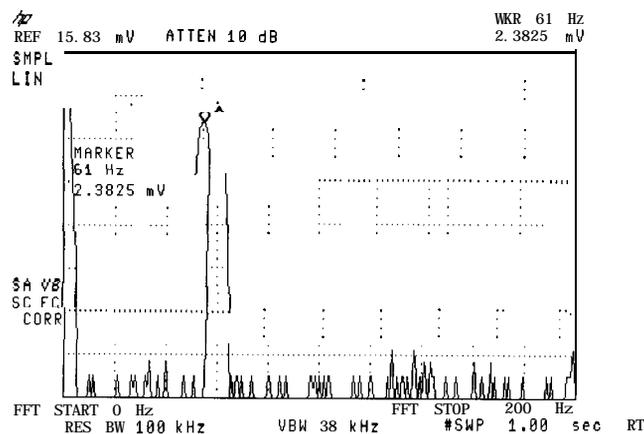

Figure 4-1. FFT Annotation
11. Press **[MEAS/USER]** and **% AM ON OFF** so that ON is underlined. The spectrum analyzer reads out the percent AM of the largest modulation frequency. An arrow indicates the signal being measured (see Figure 4-1). This measurement does not include all of the harmonics of the modulating signal.
7. Press **MEAS/USER** and **% AM ON OFF** so that ON is underlined. The spectrum analyzer reads out the percent AM of the largest modulation frequency. An arrow indicates the signal being measured (see Figure 4-1). This measurement does not include all of the harmonics of the modulating signal.